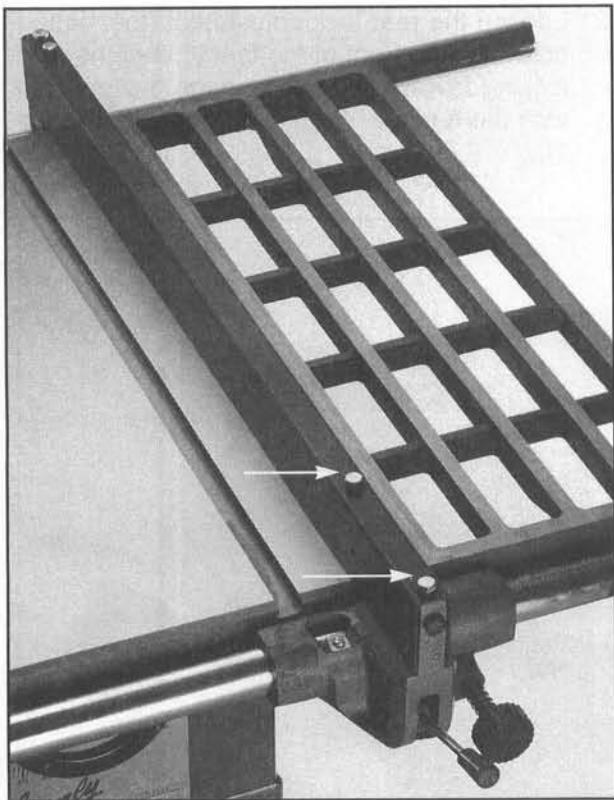

Figure 27.
4. Loosen the adjustment bolts at the top of the fence. **Figure 27.** Move the straight portion of the fence until it is parallel with the miter slot from front to back. Re-tighten the bolts.